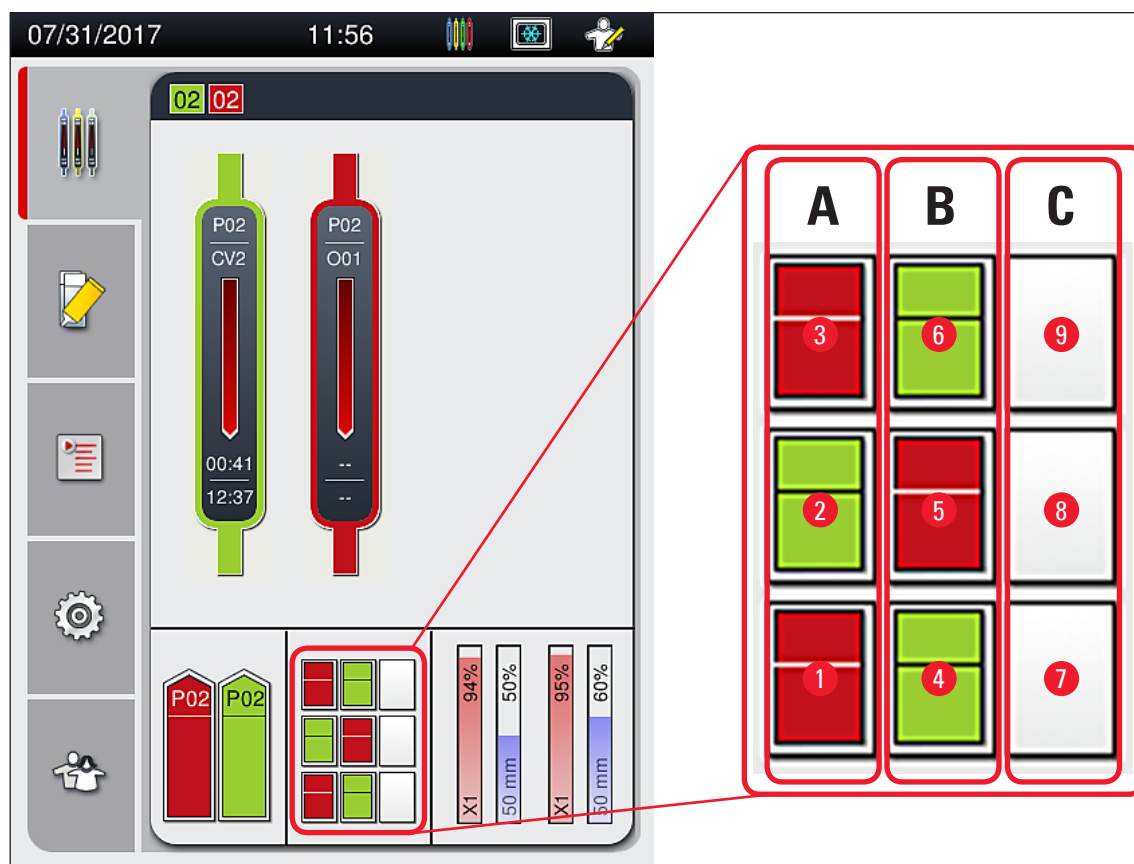

Fig. 76
- The unload drawer can hold up to 9 racks. The racks are placed in the unload drawer in the sequence shown from A1 to C9 (→ Fig. 76).